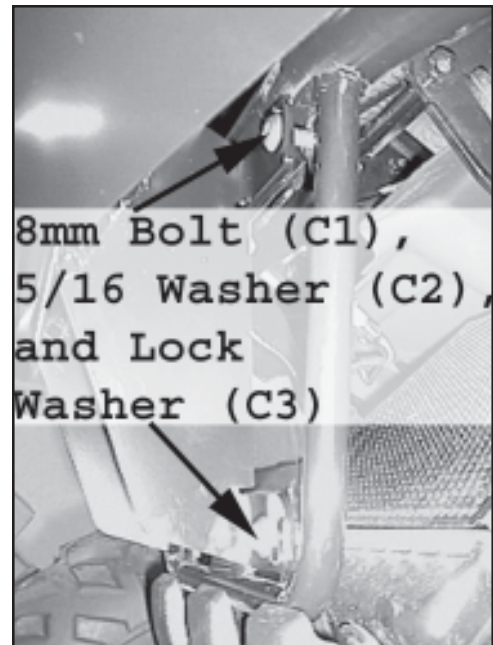

Figure 5 Install 8mm Bolts
2. Install the bumper over the exposed four holes using 8mm dia-25 mm long bolts (C1), 5/16" washers (C2), and 5/16" lock washers (C3) as shown in Figure 5. The lock washer should be placed between the flat washer and the head of the bolt. It is recommended to install the top bolts first for easier installation.